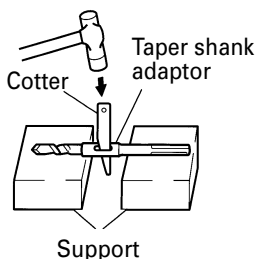

Fig. 14
- (2) Turn the power on and drill a base hole.
(3) After cleaning out dust with a syringe, attach the plug to the anchor tip and drive in the anchor with a manual hammer.
(4) To remove the drill bit with taper shank, insert a cotter into the slot of the taper shank adaptor, and place supports under the Rotary Hammer and tap the cotter with a manual hammer. (Fig. 14)